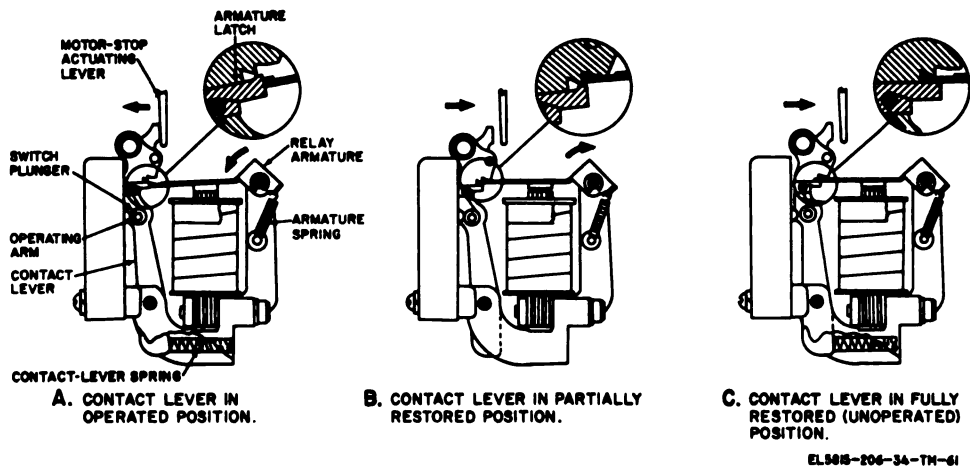

Figure 2-61. Positions of TT-4B/TG contact lever.
(a) The operating arms of the TT-4B/TG, TT-4C/TG, TT-335/TG, and TT-537/G (fig. 2-60 and 2-61) push the plungers of switches S5 and S6, and cause the circuit through each switch to open. Switch S6 is in series with the motor (fig. FO-2) and the motor stops. Switch S5 opens to remove a short circuit across the motor-stop relay, and the signal circuit current flows through the relay. The energized relay pulls the relay armature downward (A, fig. 2-61) to lock the contact lever in the operated position (away from the relay) until the motor start operation occurs (*c* below).
c. **Starting Motor.** Depression of the BREAK switch at any of the interconnected teletypewriters opens the signal circuit (fig. FO-1 and FO-2) and the motor-stop relay of each page printer is deenergized. The armature spring (fig. 2-61 and 2-63) pivots the armature upward and the contact lever moves slightly toward the restored position (position before motor-stop operation) (B, fig. 2-61 and 2-63). When the BREAK switch is released, the motor-stop relay is energized again. The armature moves downward and the contact lever moves to the fully restored position (C, fig. 2-61).
(1) The plungers of the TT-4B/TG, TT-4C/TG, TT-335/TG, and TT-537/G, and switches S5 and S6
| <p>fore blank portion of type bar strikes platen; nothing printed.</p>  | <p>moves contact lever to operated position (A, fig. 2-61 and 2-62); motor circuit opened to stop motor; short circuit across motor-stop relay remove to energize relay; energized relay holds contact lever in operated position.</p> |
- 14 Contact lever moved slightly toward restored position (B, fig. 2-61 and 2-63).